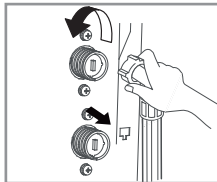

Fig. 20
- Unscrew the water inlet hose. (Fig. 20)